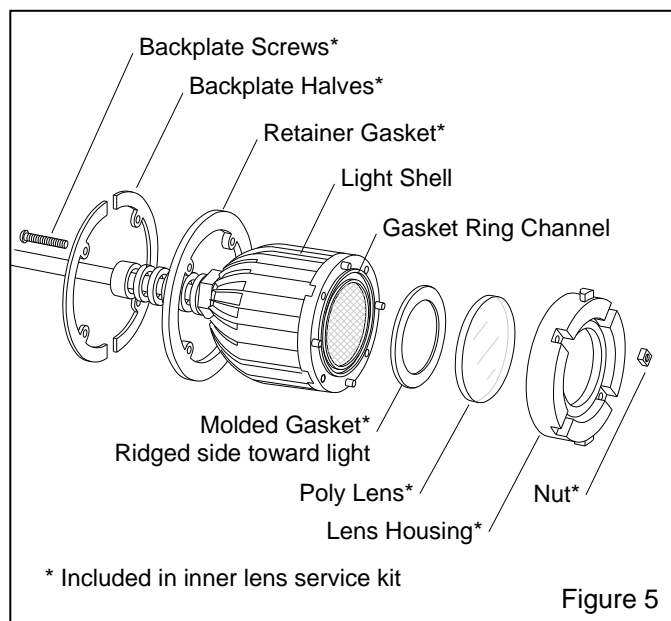

Figure 5
5.2 Removing and Servicing the Inner Poly Lens and Lens Housing, refer to Figure 5
NOTE: The inner lens service kit include all items shown with an asterisk in Figure 5. The following instructions assume all the service kit items will be replaced.